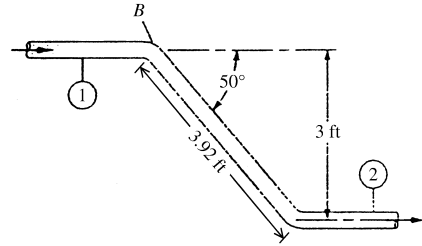

Fig. P3.115
3.115 Water at 20°C flows at 30 gal/min through the 0.75-in-diameter double pipe bend of Fig. P3.115. The pressures are $p_1 = 30 \text{ lbf/in}^2$ and $p_2 = 24 \text{ lbf/in}^2$. Compute the torque T at point B necessary to keep the pipe from rotating.